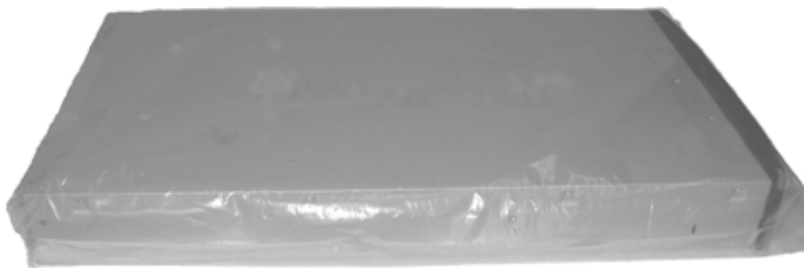

Figure D-7 Library in antistatic bag
1. Place the library inside its antistatic bag (see Figure D-7). Tape the bag closed.